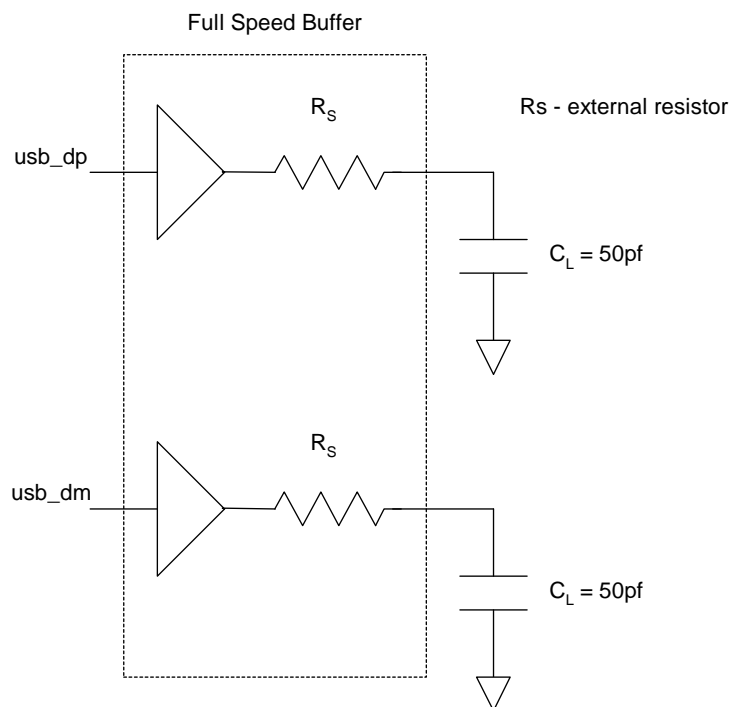

Figure 142: USB full speed load
- 1 Load shown in Figure 142, "USB full speed load," on page 833.